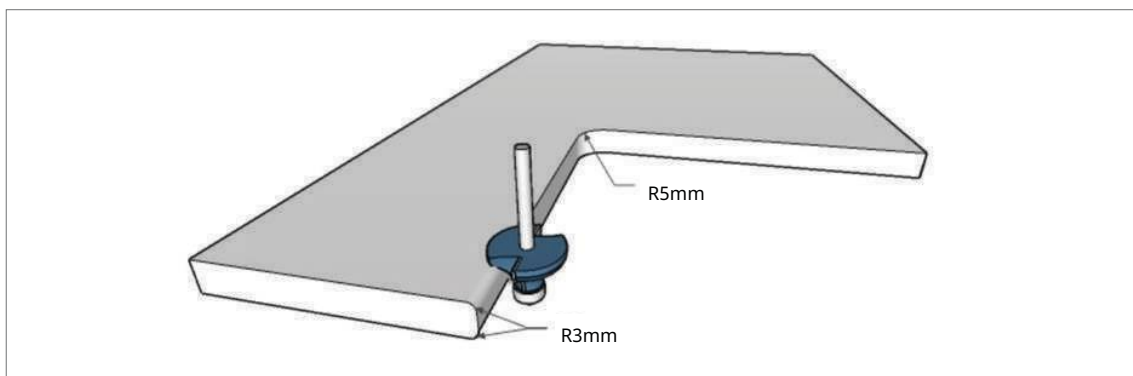

Fig.4
- Using a single fluid radius router bit or a profile router bit, like Titman Ref.-no.: XC341*12) (Fig.4)